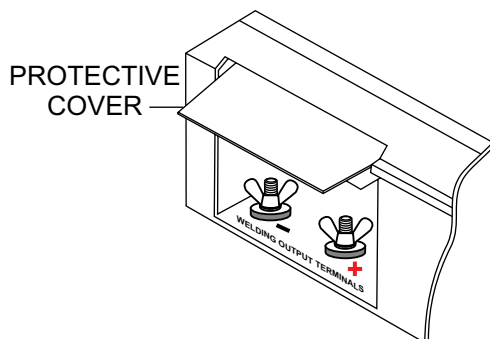

Figure 15. Protective Cover
1. Lift the output terminal protective cover (Figure 15) on the welder-generator to gain access to the welding output terminals.